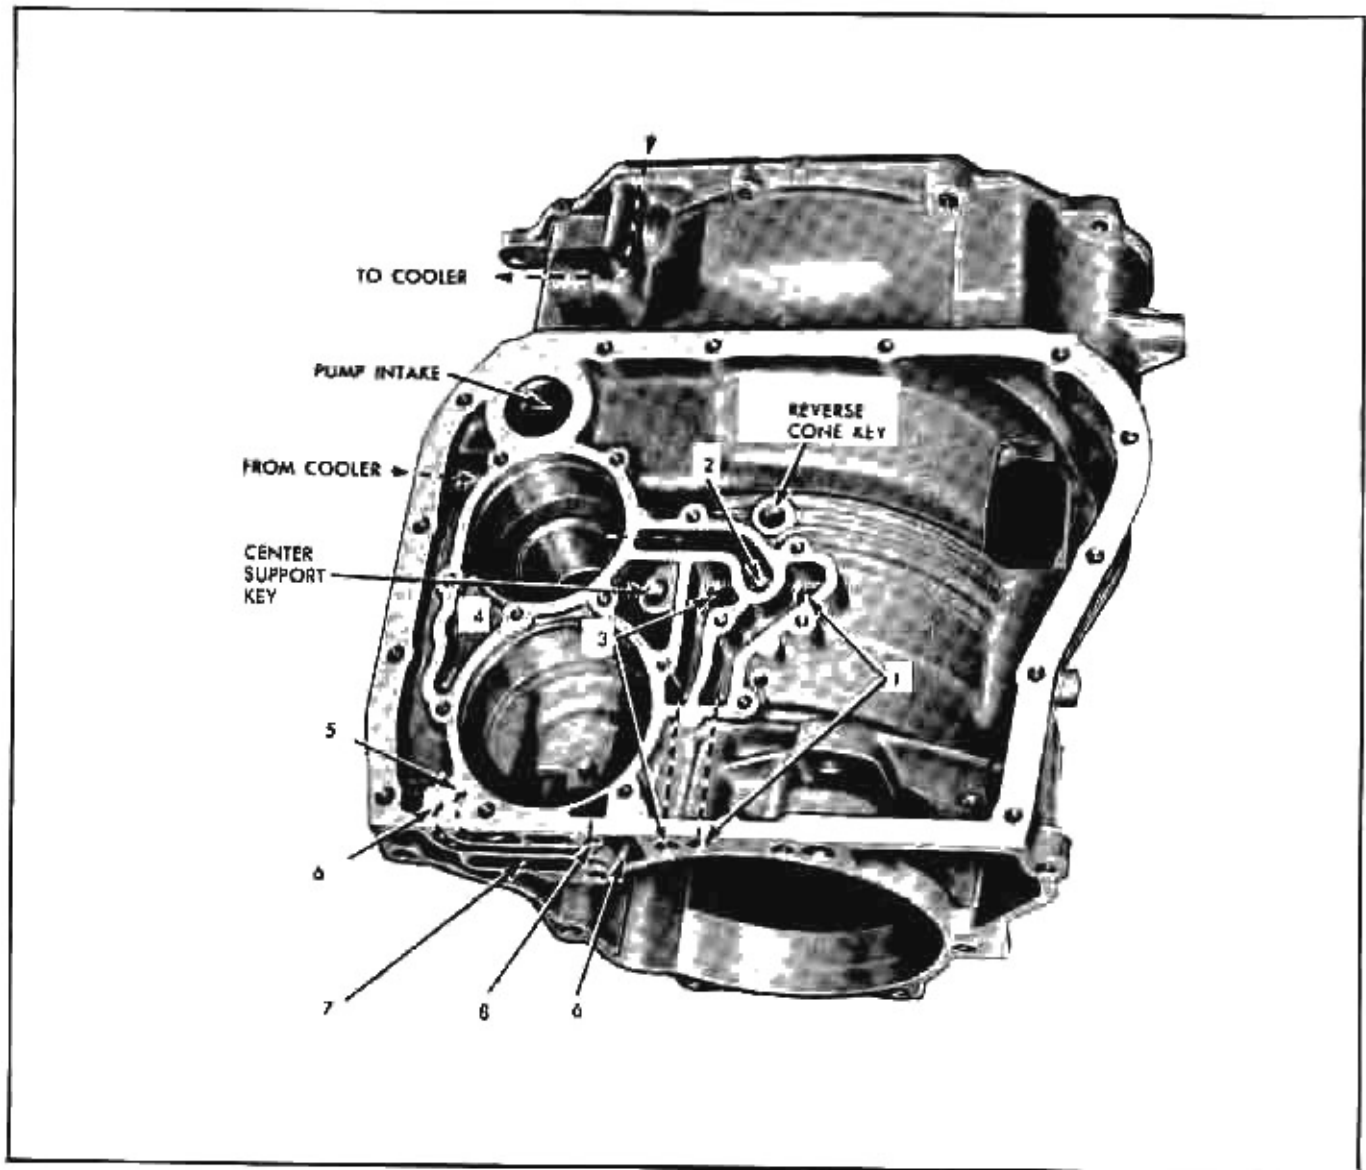

Fig. 66 Case Passages
2. Inspect case for leaks or inter-connected passages by using air gun or smoke (Fig. 66)